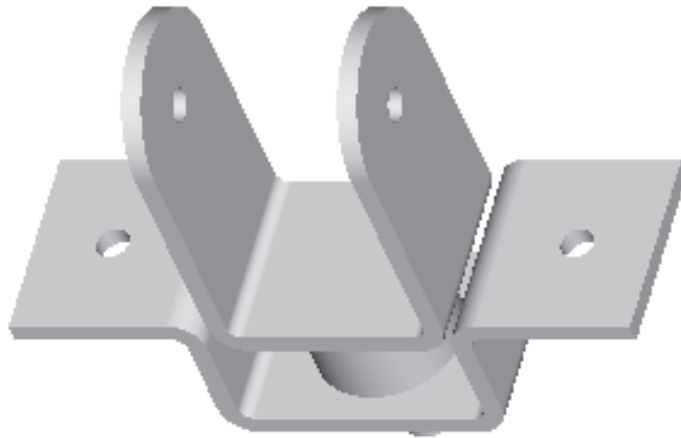

Figure 9-49 Assembled view of the Bracket with the U-Support
8. Choose **OK** from the **Component Placement** dialog box. The assembled Bracket is shown in Figure 9-49.